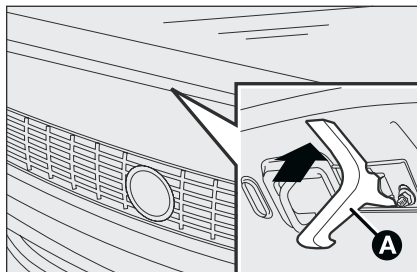

fig. 77
- operate lever **A-fig. 77** as shown in the figure;